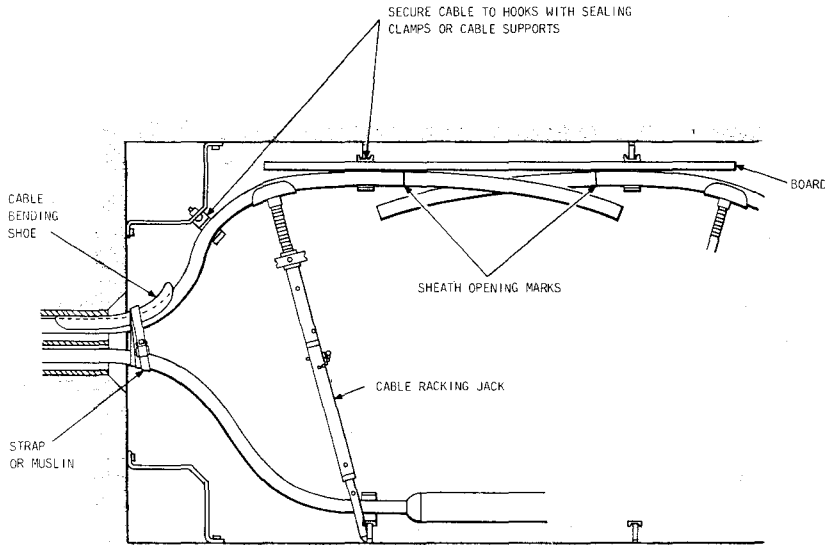

Fig. 1—Setting Up Polyethylene-Sheathed Cable
2.02 Cables larger than 1-1/2 inches in diameter will require the use of cable racking jacks and/or cable benders depending on cable size and the stiffness of the cable. Most polyethylene-sheathed cable can be set up for splicing as shown in Fig. 1.